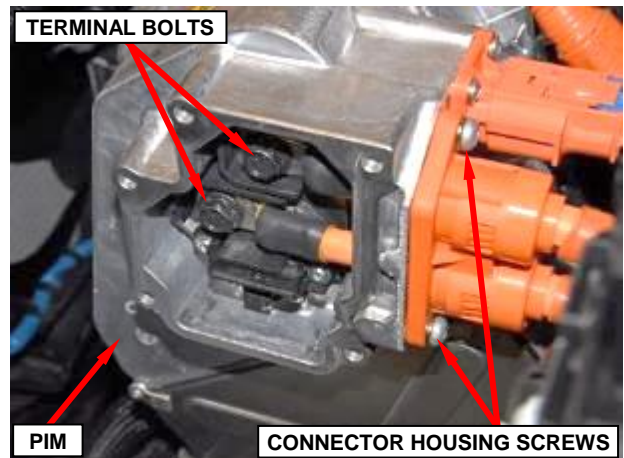

Figure 22 – High Voltage Battery Cables
- 43. Remove and save the high voltage battery cable terminal bolts (Figure 22).
- 44. Loosen the two captive screws securing the high voltage battery cable connector housing to the PIM (Figure 22).